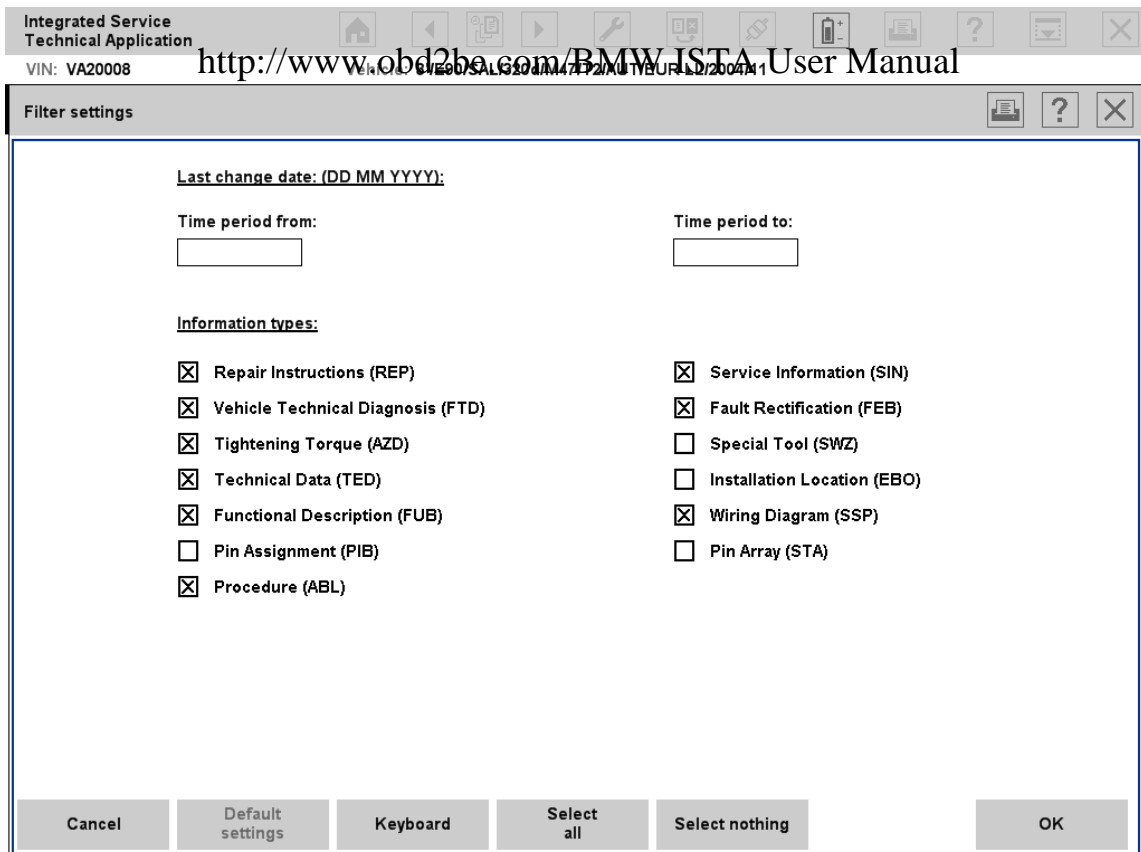

Fig. 3.22 "Filter settings" tab
- ◇ **Filter**: You can call up a window with which you limit the search to certain time periods or information types, e.g. circuit plans or repair instructions (Fig. 3.22). These filter settings are taken into account in the search.